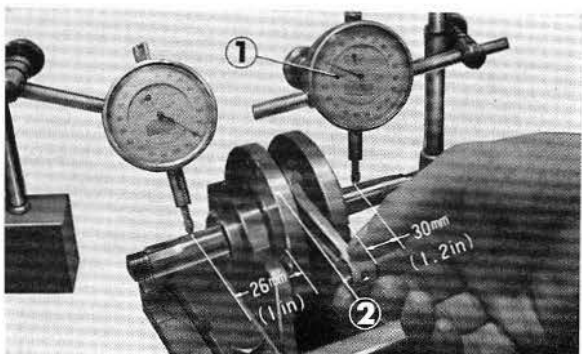

Fig. 2-45 ① Dial gauge ② Crankshaft
1. Support the crankshaft on v-blocks at the bearings and inspect for run-out. (Fig. 2-45)